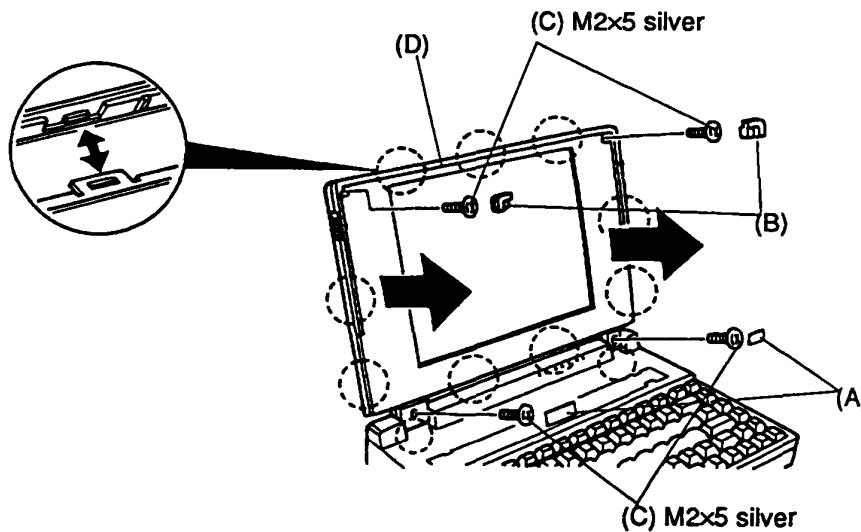

Figure 4-27 Removing the display mask screws
4. Remove the two stick-on labels (A) from the display hinges and the two rubber cushions (B) from the top corners of the display panel to expose the four screws (C) securing the display mask (D) (Figure 4-27).
5. Remove the four (M2x5 silver) screws (C) securing the display mask to the display cover.
6. Unsnap the nine latches securing the display cover (Figure 4-27).
2. Snap the nine latches on the mask in place. Check to make sure the seam between the front and the back of the display is evenly seated around the display (Figure 4-27).